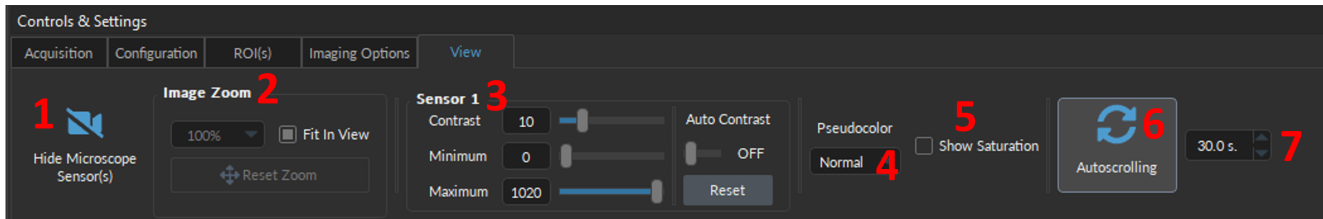

Figure 8.16: View Tab
The **View Tab** (Fig. 8.16) is used to modify the presentation of microscope image and the ROI(s) / Digital IO graphs in the **Acquisition view**.
1. The **Hide Microscope Sensor(s)** button (Fig. 8.16, 1) removes the **Microscope View** from the **Acquisition View**, automatically enlarging the **ROIs / Signal View**. Disabling **Hide Microscope Sensor(s)** (renamed **Show Camera Feed(s)**), re-displays the **Microscope View**.
2. The **Image Zoom** (Fig. 8.16, 2) includes the following:
3. The **Sensor 1** (Fig. 8.16, 3) is used to adjust contrast on a given sensor. When a microscope used has multiple sensors, multiple **SENSOR** sections will be displayed, one for each sensor.
- The **Auto Contrast** (Fig. 8.16, 4) will activate an automatic contrast adjustment algorithm, and will set the contrast to maximize the difference between the maximum and minimum values based on current values collected. The **Reset** button re-adjusts the contrast functions to their default settings, before the algorithm was enabled.
4. The **Pseudocolor** drop-down (Fig. 8.16, 4) maps the pixels values to a pseudocolor range (of 13 possible options) to facilitate viewing.
5. The **Show Saturation** checkbox (Fig. 8.16, 5) is only available when the **Auto Contrast** setting is disabled.. When enabled, saturation pixels will turn red. This function is only available if no pseudocolor is selected.
6. The **Autoscrolling** button (Fig. 8.16, 6), when selected, automatically set the graphs to scroll as new data appears.
7. The **Zoom range** text-box (Fig. 8.16, 7) sets the graph zoom to the value of choice, specified in the text-box.